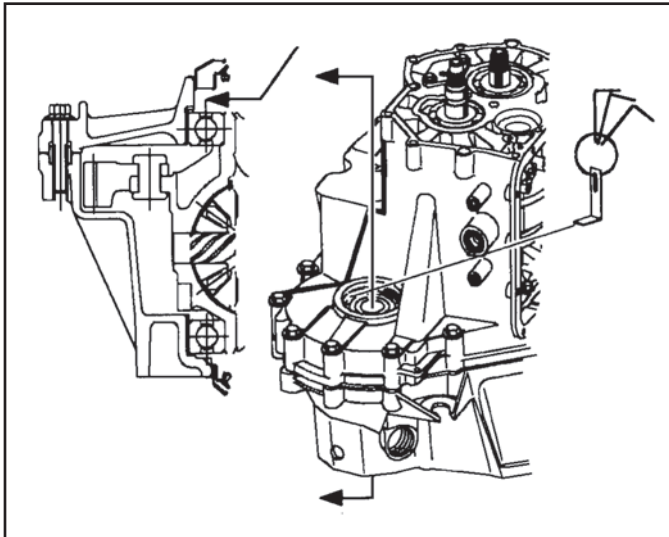

Figure 197
17. With a feeler gauge, measure the clearance from the bearing to the top of the snap ring groove (See Figure 197).